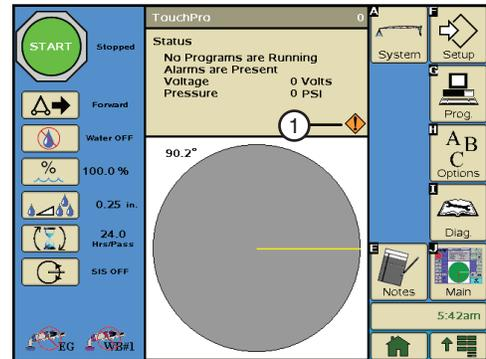

Figure 52-3 2. Error Notice Icon
Push the **Error Notice** icon or the **Diag, Faults** button, then the **Error codes** tab to display the Error Codes screen. See Figures 52-3 and 52-4.
1. Push the **Error Notice** icon to display the Error Codes screen. See Figure 52-3.